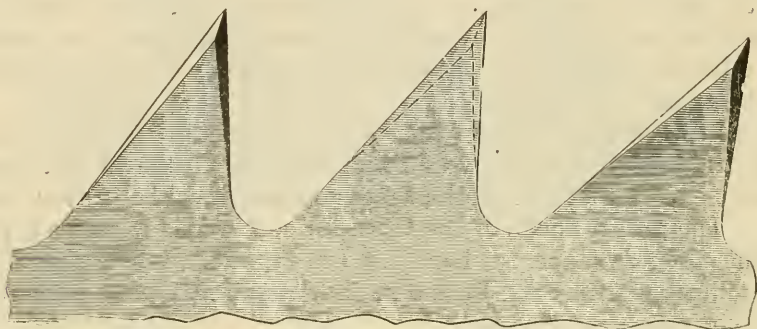
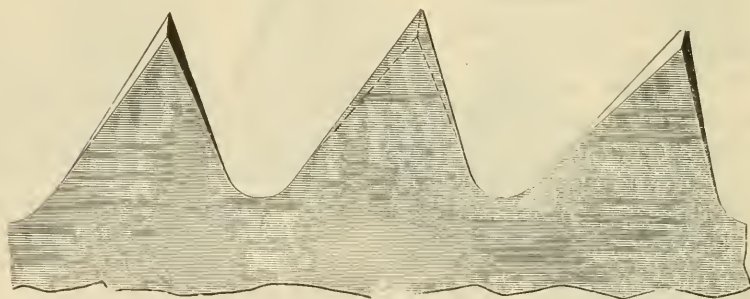

Fig. 27— FOR SOFT WOOD
Fig. 28— FOR HARD WOOD
27. Fitting Cut-off Saws-- Cut-off saws are set in the same manner as the briar-dress rip saw. In fact, they are fitted in the same manner, except that the teeth are given more bevel both front and back. The proper shape of the tooth for soft woods is shown in Fig. 27, the proper shape for hard wood in Fig. 28. When gullets are cut as illustrated in Figs. 27 and 28 they require frequent gumming.